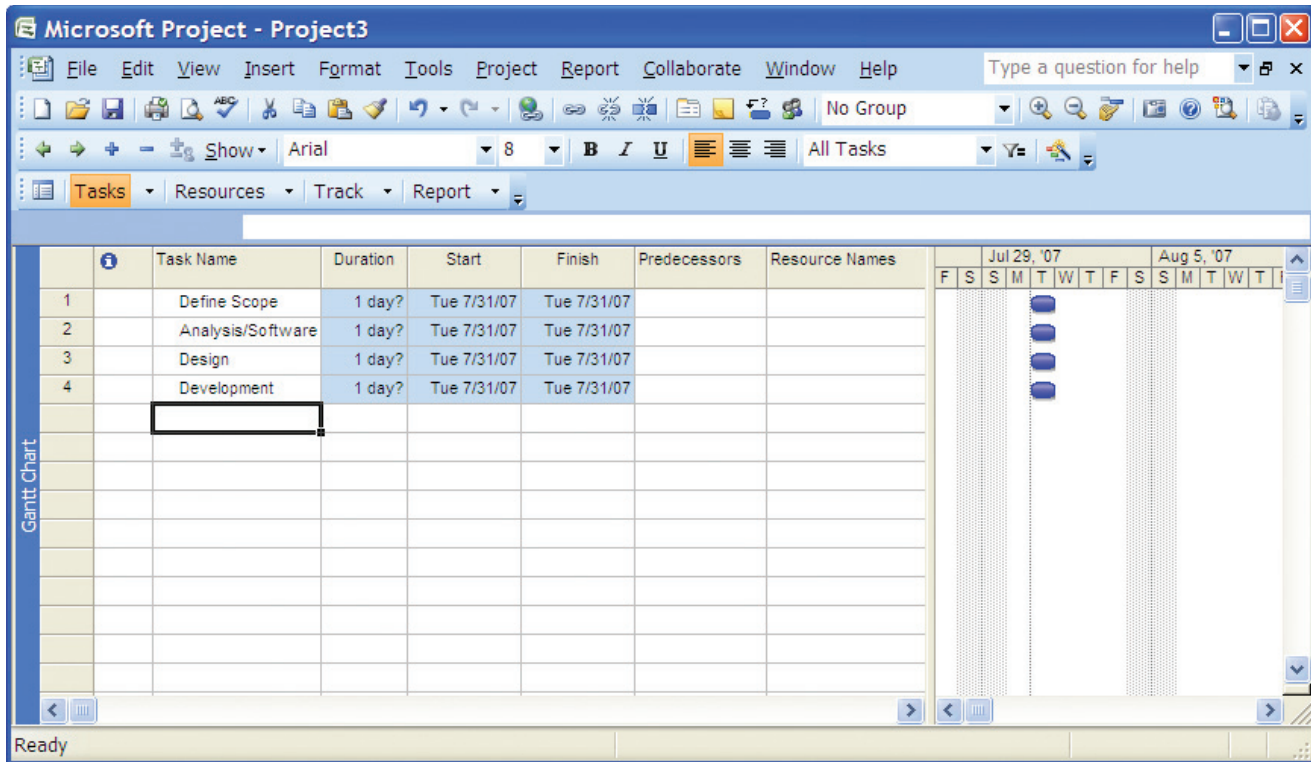

FIGURE T12.10
3. Press **Enter** or your **down arrow** key to move to the next row. The task name is not recorded and other commands remain unavailable until you press Enter or the down arrow key. Figure T12.10 displays a few tasks entered into a new project.